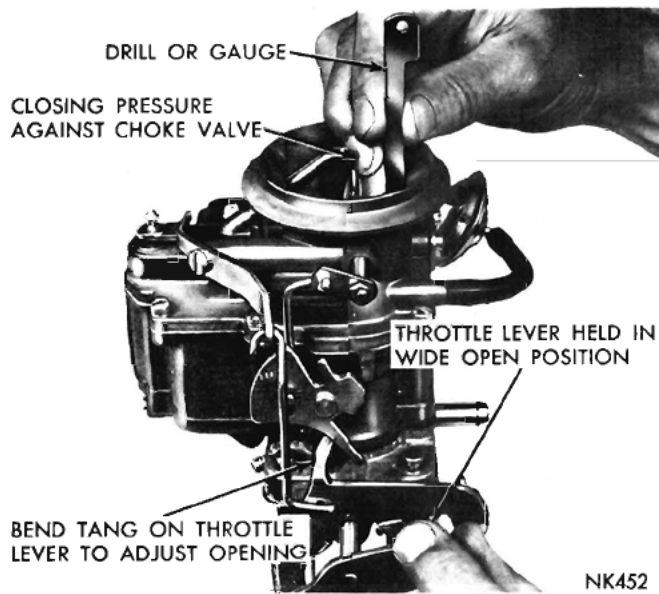

Fig. 21—Unloader Adjustment (wide open kick)
tween the choke valve and wall of air horn, as shown in (Fig. 21).
(2) To adjust, bend the tang on the throttle lever using Tool T109-214, as shown in (Fig. 21).
(3) Hold choke open and then open and close the throttle valves. Failure to obtain full throttle operation indicates improper assembly of the choke mechanism.
(4) With the throttle valves held in open position, open the choke valve slowly to wide open position. There should be no bind throughout the entire travel of choke mechanism.